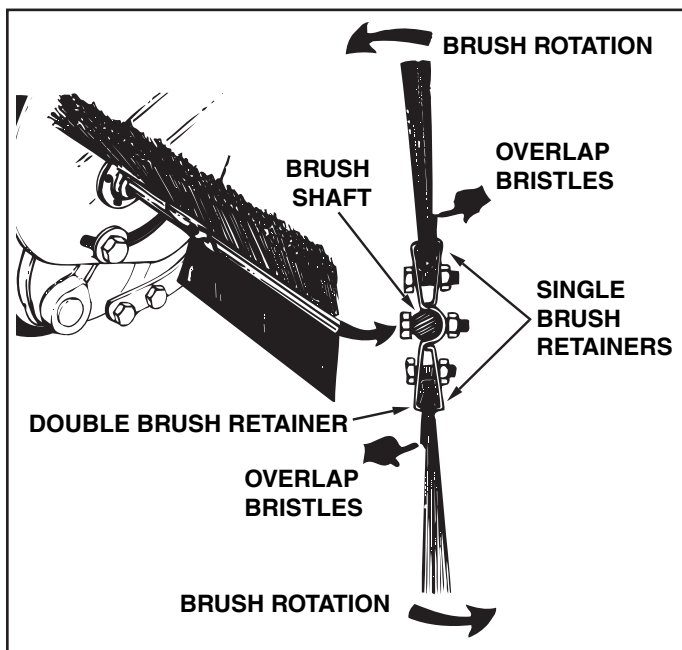

FIGURE 24
- Loosen the hex bolts and lock nuts on two single brush retainers which clamp one brush to the double brush retainers. **Do Not loosen** or remove the bolts which fasten the double brush retainers to the brush shaft. See figure 24.
- Slide the brush out of the retainers, noting on which side of the brush the bristles overlap. See figure 24.
- Install new brush, making sure the bristles overlap on the same side of the brush as before. See figure 24.